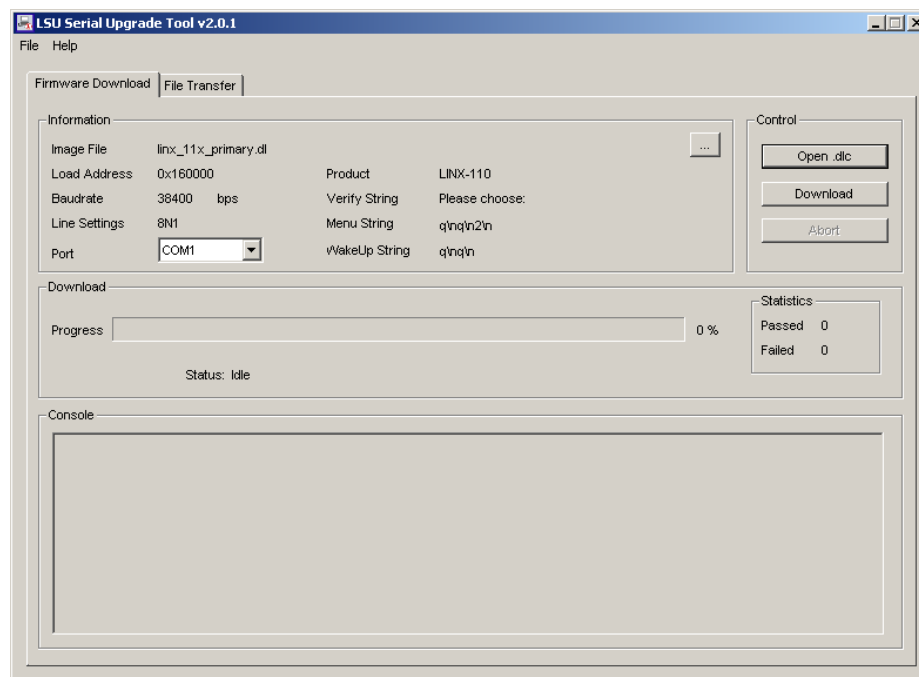

Figure 364: LSU Serial Upgrade Tool in Idle Mode.
1. Double click on the \*.dlc file that comes with the new firmware package. This should start the LSU Tool and load the firmware image referenced in the dlc file. Please note that the dlc file and the dl file must be stored in the same folder. The start window of the LSU tool is shown in Figure 364.